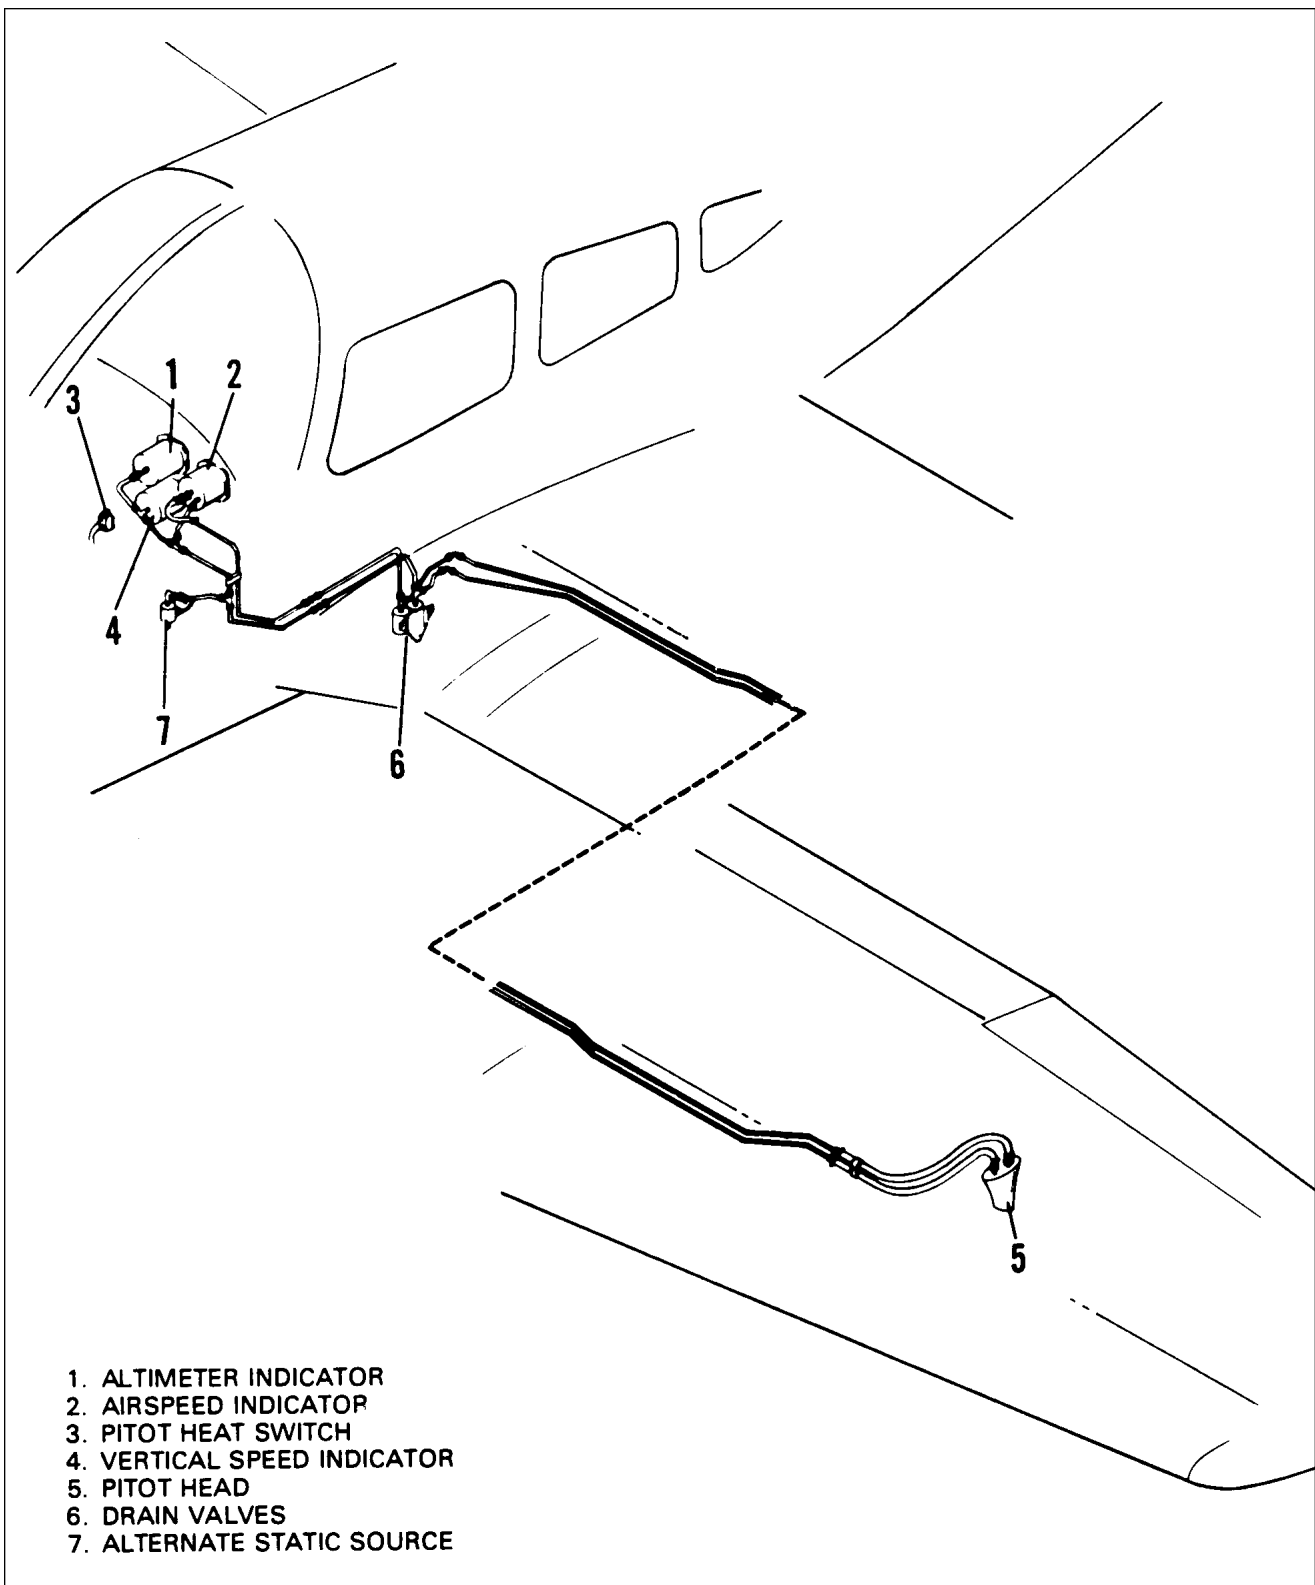

Figure 34-1. Pitot/Static System
- a. Pitot and static air sources, which supplies both pitot and static pressure for the airspeed indicator, and static pressure for the altimeter, and vertical speed indicator. (Refer to Figure 34-1.) These instruments are face mounted. Pitot heat, offered as an option on the Archer II, is standard on the Archer III.
- (1) Attitude Deviation Indicator (ADI) (Attitude Gyro).
- (2) Gyroscopic Heading Indicator or Horizontal Situation Indicator (HSI).
DESCRIPTION AND OPERATION (Refer to Figure 34-1)